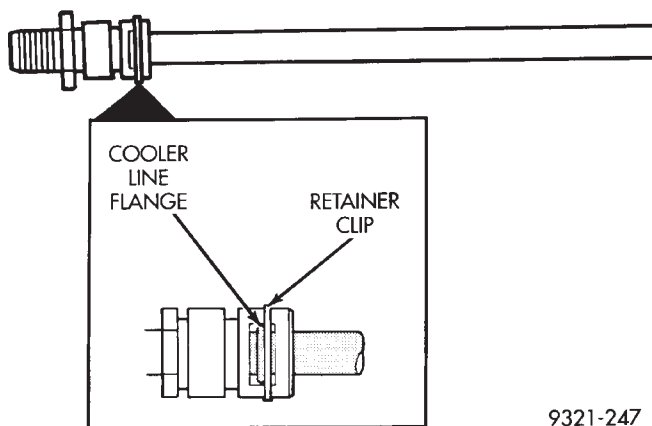

Fig. 22 Verifying Installation Of Cooler Lines In Quick Disconnect Fittings
- (4) Wipe end of each cooler line clean with lint free cloth, or shop towel.
- (5) Start cooler line into fitting. Then push cooler line inward until wire retainer clip snaps into place behind flange on cooler line.
- (6) **Note position of plastic insert. When cooler line is fully seated, insert will no longer extend beyond end of fitting.**
- (7) Verify that both sides of wire retainer clip are seated **behind** flange on cooler line (Fig. 22).
CAUTION: The retainer clips secure the cooler lines in the quick disconnect fittings. If the clips become deformed, or distorted, normal fluid pressure could unseat the cooler lines resulting in fluid loss and transmission damage. Be very sure the clips are in good condition and firmly seated behind the cooler line flanges (Fig. 22).